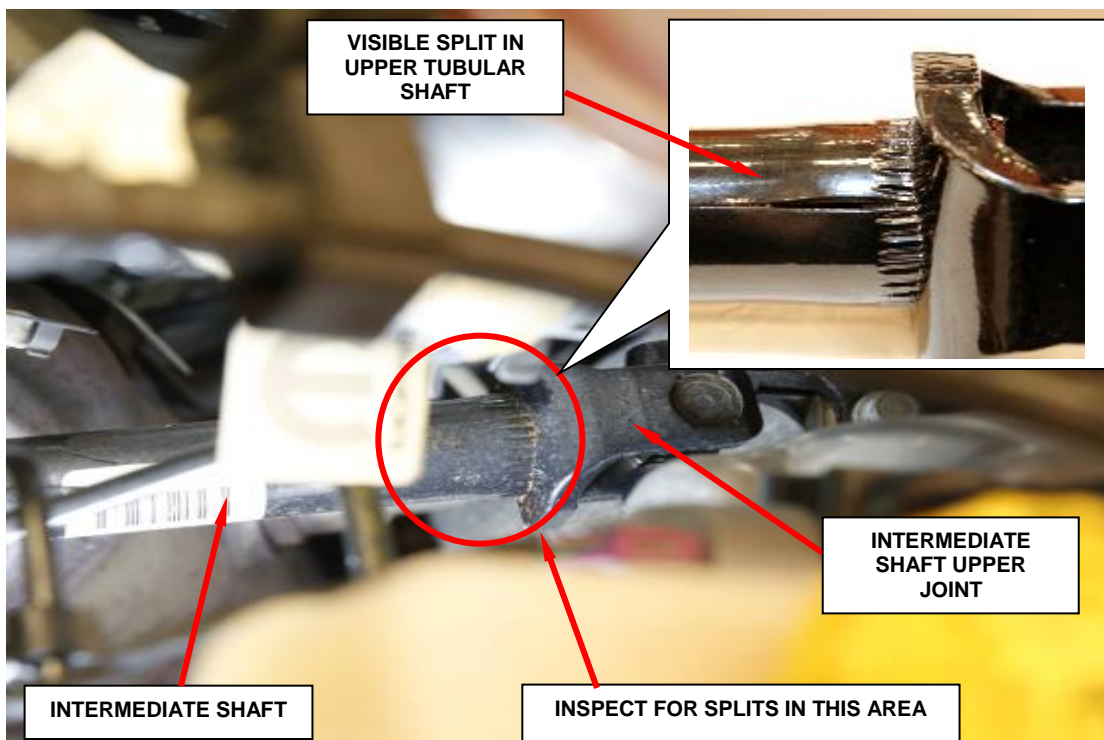

Figure 2 – Inspect for Splits
- b. Person # 1: With a flash light visually look for splits on the upper tubular shaft/stake yoke connection (Figure 2).